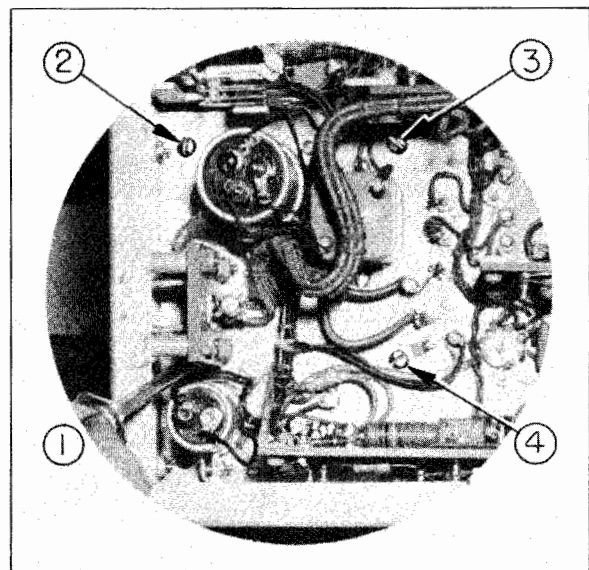

Figure 7-9.—Power Supply Removal.
(2) Remove the four screws securing the power supply to the main chassis (figure 7-9) and lower the power supply away from the main unit.
(3) Remove the bottom-plate holding screws. To reassemble the power supply, reverse the disassembly procedure.